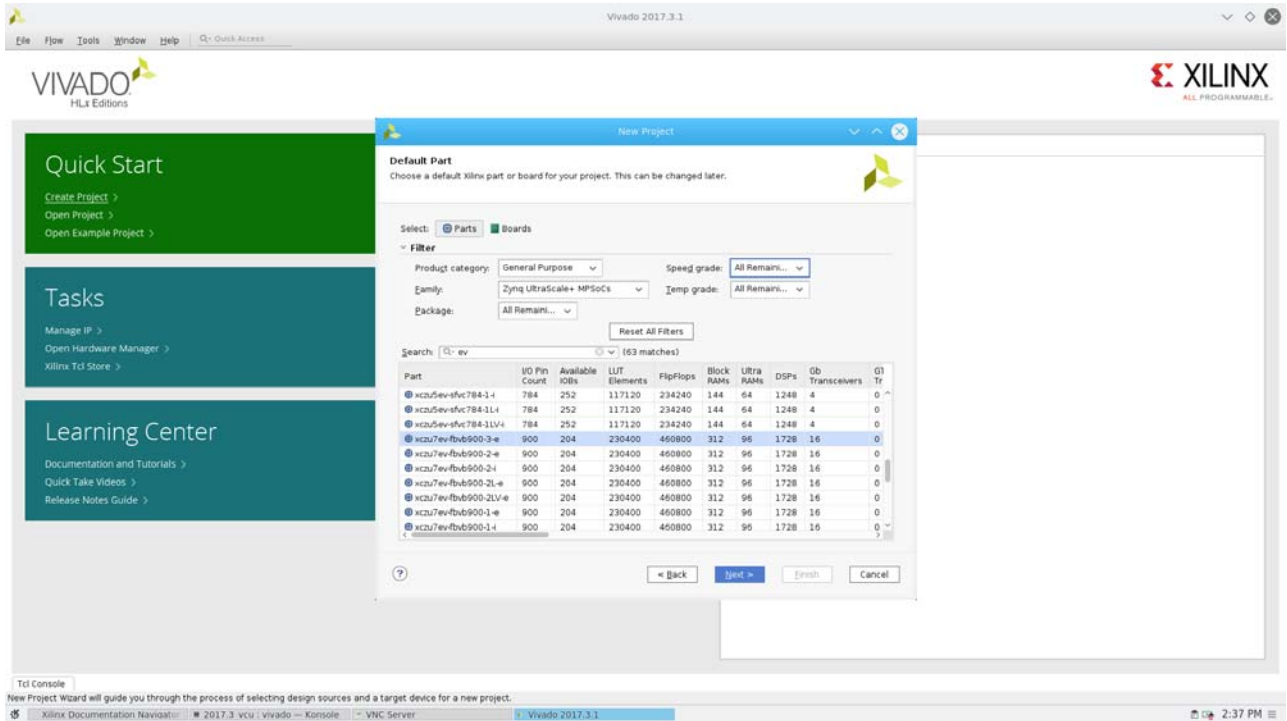

Figure 10-4: Family Selection Tab
3. Select a target device for the VCU core. (Figure 10-4)